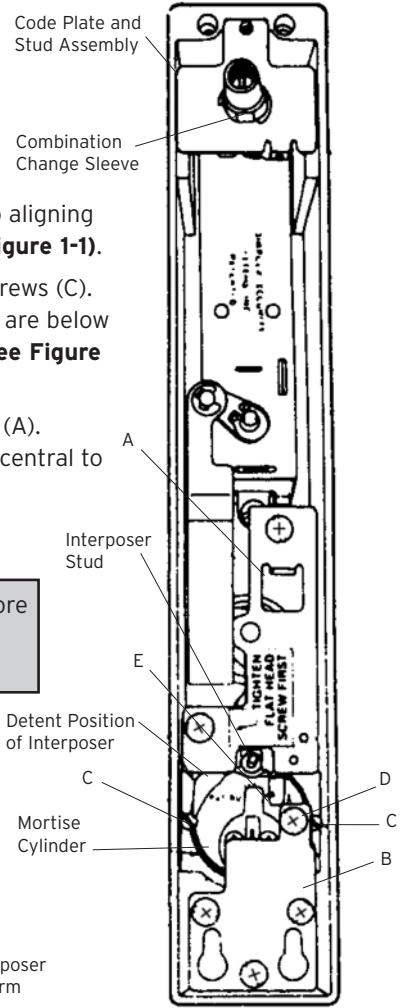
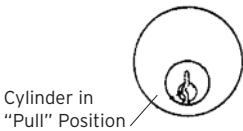

Figure 1-1
Figure 1-2
- A-1** Cylinder Installation: Remove interposer assembly (A) by removing one round head screw and one flat head screw (See Figure 1-1).
- A-2** Install Mortise cylinder by turning cylinder until cylinder cam (E) contacts lock-in plate (B) (See Figure 1-1). Turn cylinder to the left (counterclockwise) less than one turn until the key is positioned in pull position (See Figure 1-2), also aligning to cylinder set screw grooves (See Figure 1-1).
- A-3** Assemble two cylinder positioning screws (C). Make sure the heads of these screws are below the underside of the cylinder cam (See Figure 1-1).
- A-5** Assemble cam stop screw (D).
**Note:** Interposer stud to be centered before mounting combination lock assembly (See Figure 1-1).